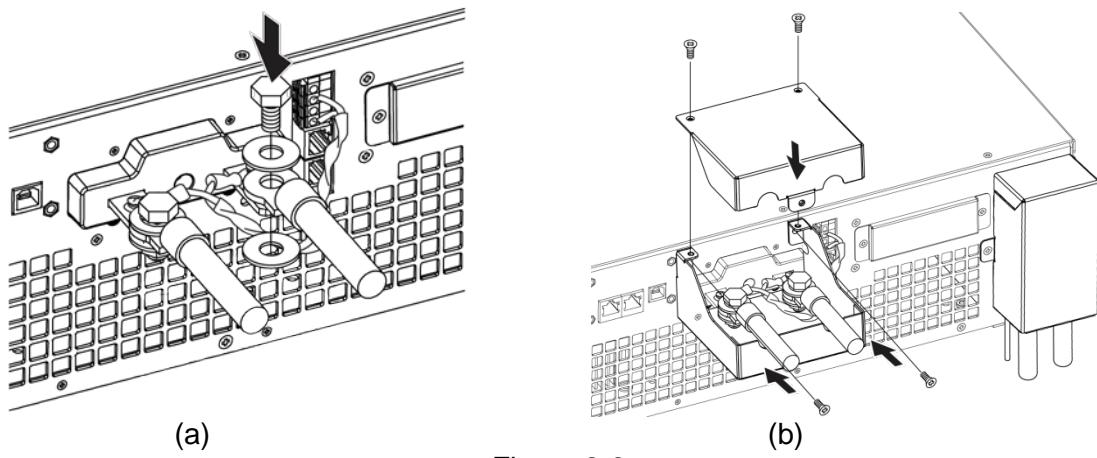
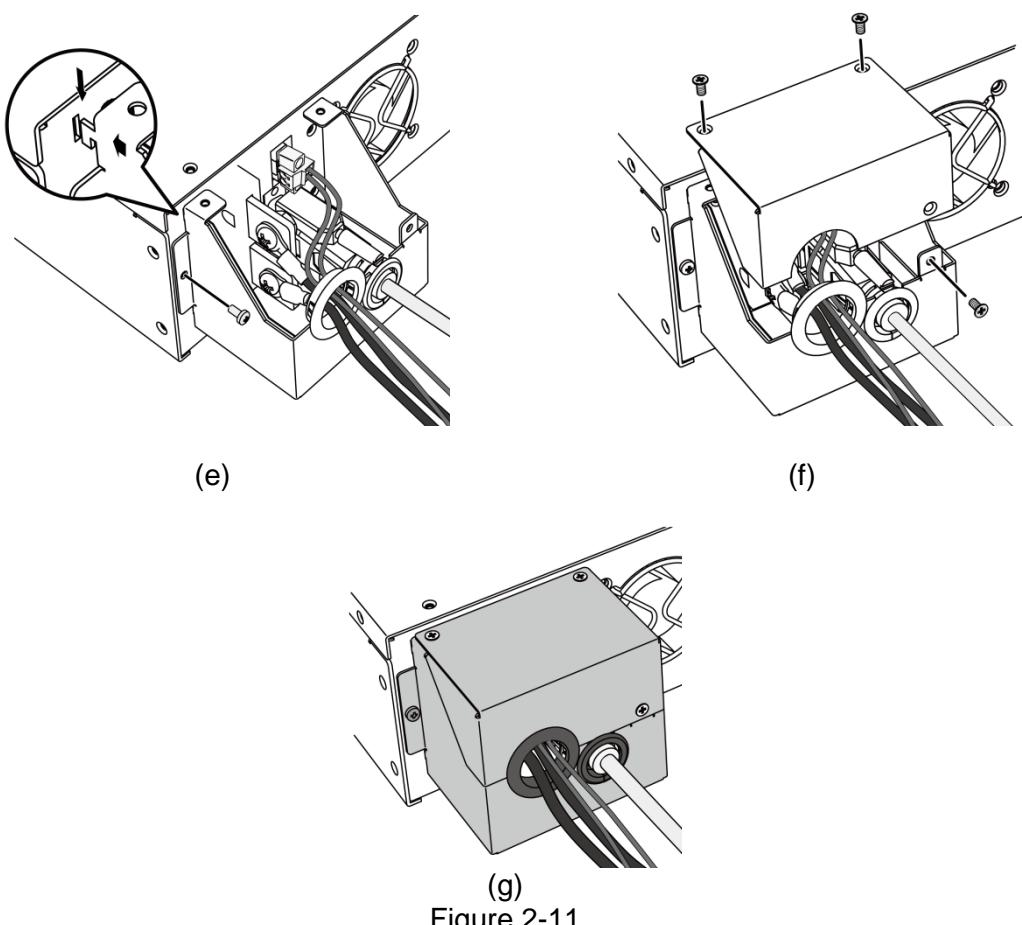

Figure 2-9
Figure 2-11
- (1) The output terminal is located in the upper middle area on the rear panel. (For the 62020H-150S, the output terminal is located on the left side of the rear panel.)
- (2) The output cable must be rated for 85°C or higher.
- (3) To connect the output cables, see Figure 2-9 (a) & (b) for the 62000H and Figure 2-11 (c), (d), (e), (f) and (g) for the 62020H-150S. Perform the steps below:
- (4) A standard hoop is attached when purchasing the A620028 or A620027 SLAVE model to hold the current sharing cables as shown in Figure 2-10. Mount it first and then continue the installation as shown in Figure 2-9.